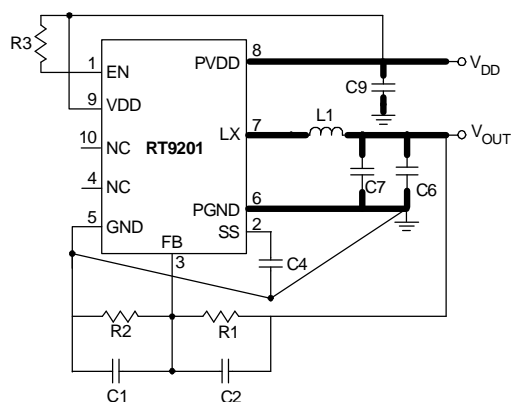

Figure 3. RT9201 Layout Diagram
1. For the main current paths as indicated in bold lines in Figure 3, keep their traces short and wide.